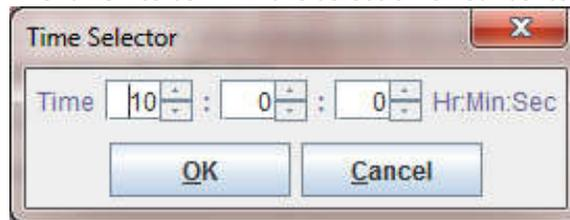

Figure 90 - Time Selector window
- Click the time icon to open the time selector (Figure 90)